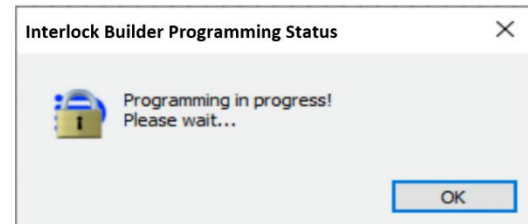

Figure 79 - Programming in Progress
- Interlock Builder displays a "Programming in progress" dialog (Figure 79 - Programming in Progress).